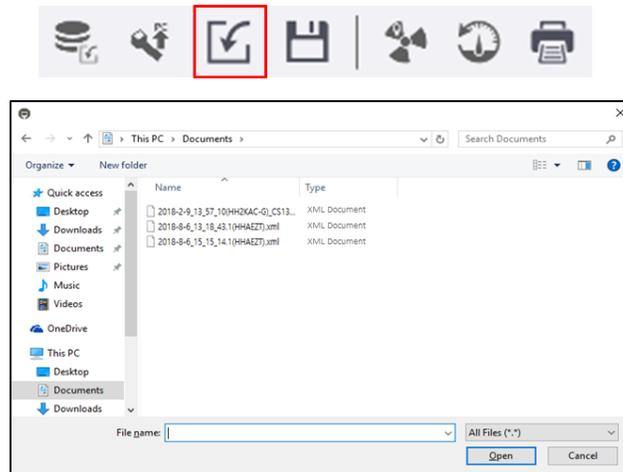

Figure 7.8.5. Importing XML File Format
1. Click the disk icon . The directory screen will appear (figure 7.8.5).